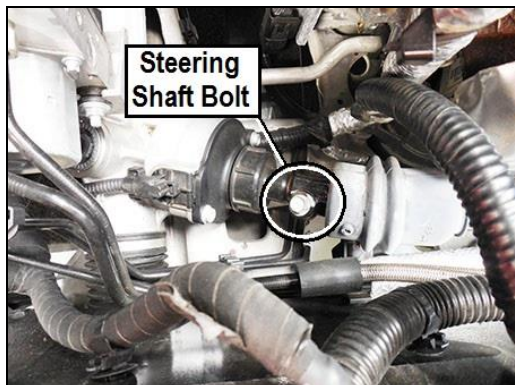

Figure 3
13. Remove the 11mm bolt at the coupler to the steering rack and slide the shaft from the rack (**Figure 3**).